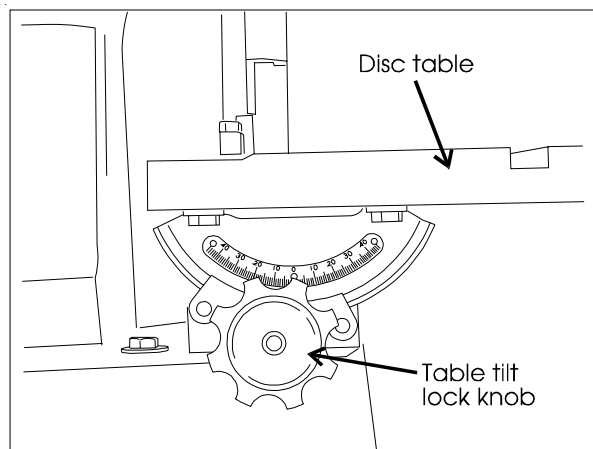

Figure 10: Disc table lock knob
3. Remove the table tilt lock knob (Figure 10).